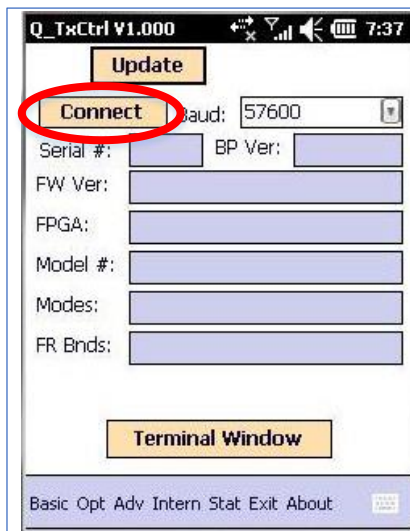
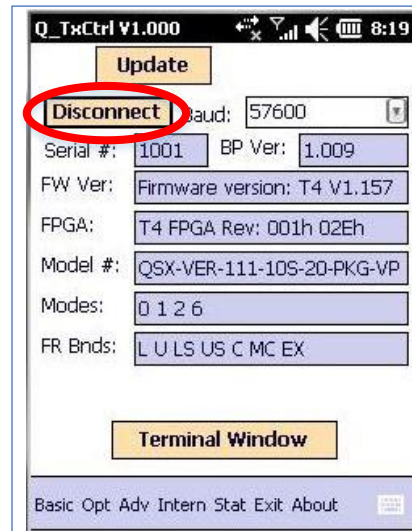

Figure 11: TxCtrl Screen, Connect Button Highlighted
Figure 12: TxCtrl Screen, Disconnect Button Highlighted
7. Tap the Connect button (Figure 11) to connect to the Quasonix transmitter. When connected, the Connect button changes to a Disconnect button (Figure 12) and the Handheld Programmer updates the display from the connected transmitter.